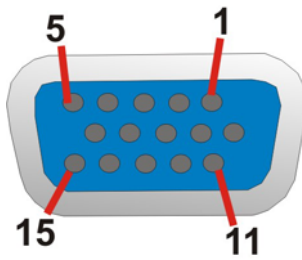

Figure 4-27: VGA Connector
- CN Pinouts:** See **Figure 4-27** and **Table 4-29**